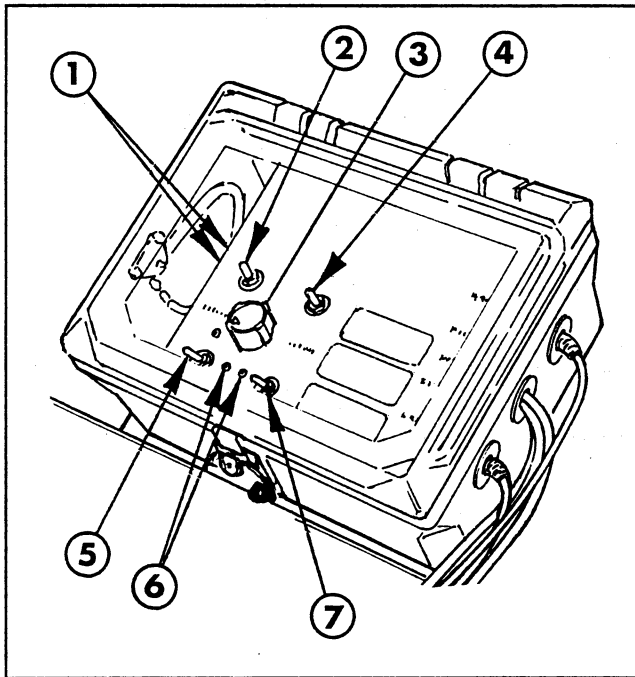

FIG. 1
**Power Switch (FIG. 1):** Switches the power to the control box On or Off.
**Right Boom Up/Down Switch (FIG. 1):** Controls the up and down motion of the right boom.
**Left Boom Up/Down Switch (FIG. 1):** Controls the up and down motion of the left boom.
**Sonar Switch (FIG. 1):** Toggles the boom lift control between sonar operation and manual operation.
**Height Adjustment Knob (FIG. 1):** Adjust the height at which the sonar control will maintain the left and right booms.
1. Should either of the actuators draw a heavy load current momentarily, the left or right Overload Indicator light will come on to indicate the boom effected (FIG. 1).
1. Should power to the sonar system fail, push the manual reset buttons (FIG. 1) on the left hand side of the sonar controller head, to restore power.